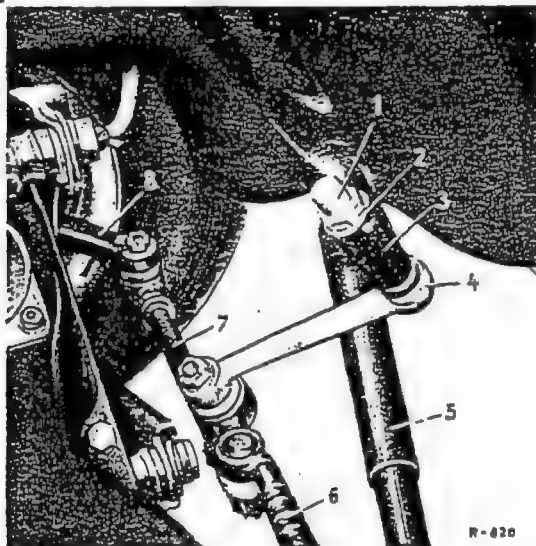

Fig. 46-11/1
2. Tap up the locking plate (2) for the cover plate (1) on the top of the trunnion bearing (3) of the steering relay arm (4). Then loosen the cover plate and remove together with the pressure spring and the thrust washer. Pull the arm out of the trunnion bearing downward (Fig. 46-11/1).
4. Check the pin of the steering relay arm (8) and the bushing (6) in the trunnion bearing (5) for wear (for dimensions see Job No. 46-0). If the pin is worn, replace the arm. If necessary, tap out the bushing including the grease seal (7) from the trunnion bearing (Fig. 46-11/2).